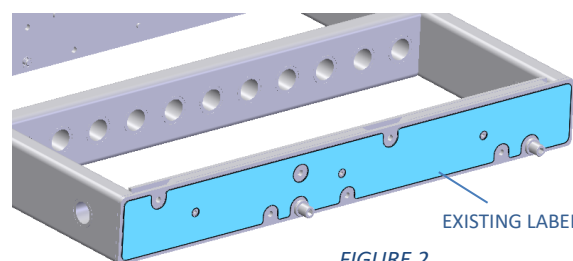

FIGURE 2
2. Remove existing grid labels highlighted in FIGURE 2, starting in one corner. If necessary, start the corner with a razor blade. Clean any residual residue with IPA. Do this on both sides. Note: The entirety of the existing labels does not need to be removed, as the new label will be applied over the existing label's location.